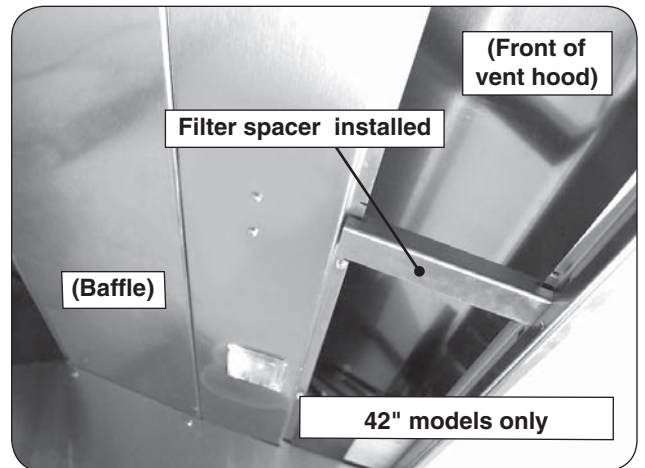

Fig. 17-3 Install filter spacer (if applicable)
1. Install the filter spacer (if applicable, 42" models only). See Fig. 17-3. Repeat for other side.